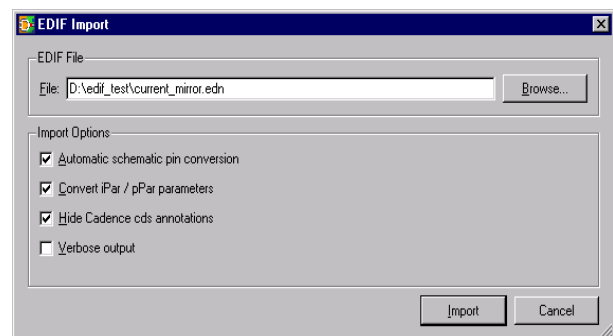

Figure 2. Set Import settings
2. Click File->Import->EDIF... and select the file and check appropriate boxes as shown in Figure 2